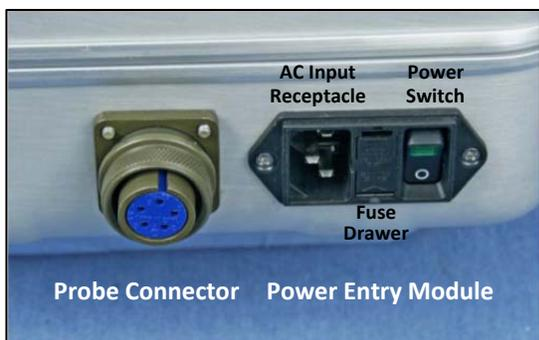

Figure 5.
4. Install Meter Prover by plugging into probe connector (see Figure 5) at the side of the instrument.
5. Turn Power Switch to Off. (Power Switch is located at the side of the instrument - see Figure 5.)
7. Plug female end to AC power cord into AC input receptacle (see Figure 5) at the side of the instrument.
14. Install Meter Prover into female end of cable, and male end of cable into the connector (see Figure 5) at the side of the instrument.
The MS3112 probe connector and power entry module are located on the right-hand side of the instrument case as shown in Figure 5.
Fuse Drawer – The MS3112 is fused to protect the instrument from damage in the event of a fault or power surge. The fuse is located in the fuse drawer of the power entry module (see Figure 5).
Main Power Switch – The main power switch is located in the power entry module (see Figure 5). This is used to turn the instrument on and off. The green indicator light will illuminate to indicate when power is on.